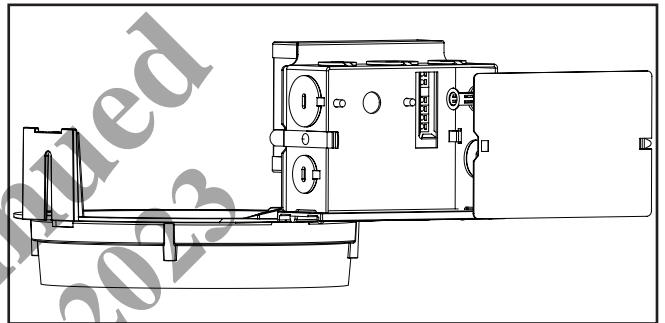

Figure 6.
2. Remove junction box cover. (Figure 6.)